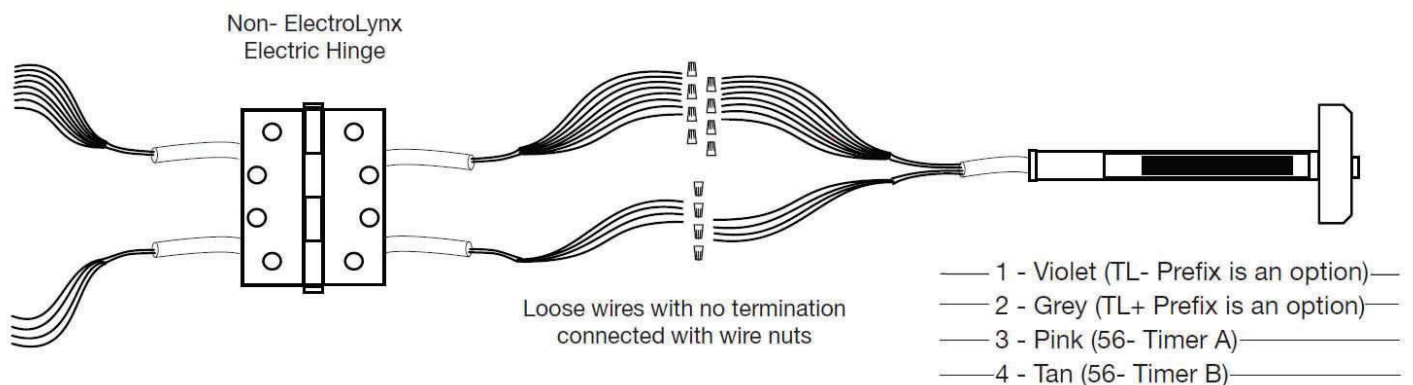

Figure 16
3. Connect the ElectroLynx harness in the door (Figure 16 ElectroLynx **Timer Mode** Installation):
- Plug the 8-pin and 4-pin ElectroLynx connectors from the rail into the 3" ElectroLynx harness or splice into a non-ElectroLynx harness (Figure 16 **Timer Mode** Installation).
- Feed the 3" harness through the 1" hole in the door and secure the rail to the door using the mounting bracket and two supplied screws (Figure 16 **Timer Mode** Installation).